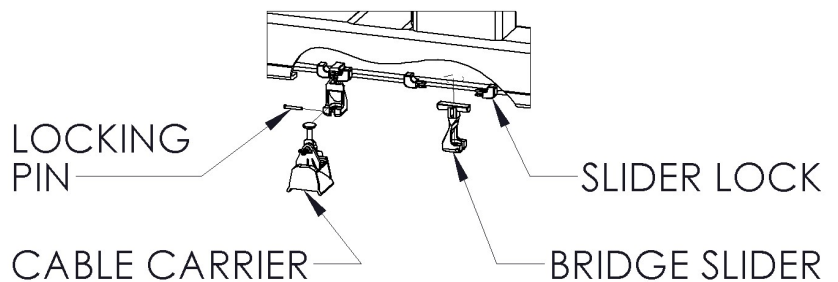

Figure 10: Bridge festoon sliders
7. Suspend the festoon cable carriers from the runway festoon trolleys and festoon sliders then secure with the included retaining pin(s) (see figure 10)